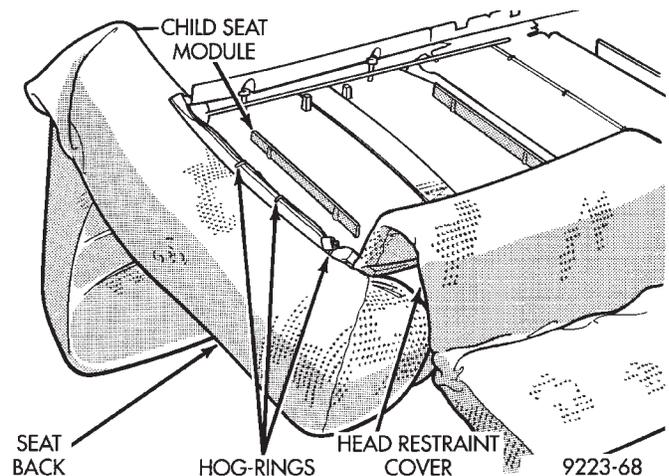
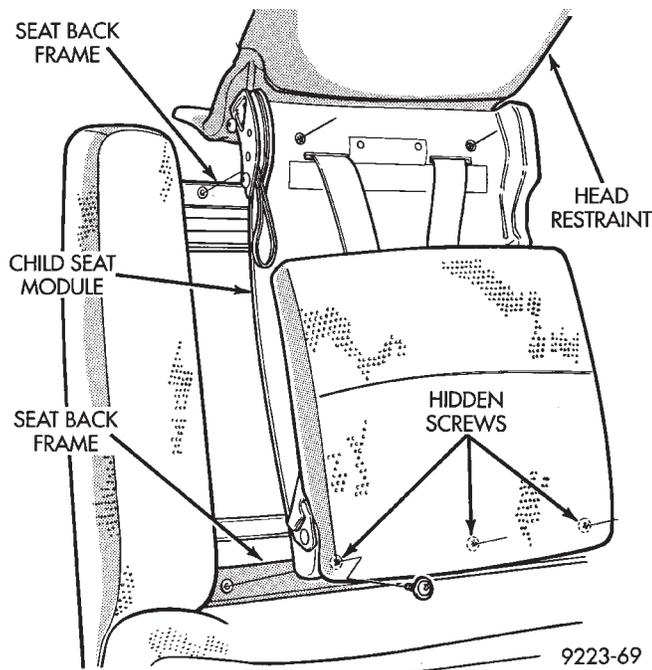

Fig. 27 Seat Back Cover Hog-ring
Fig. 28 Child Seat Module
- (1) Remove trim panel from rear of seat back.
- (2) Open child seat and separate hook and loop fasteners holding vinyl insert to module.
- (3) Disengage J-strip retainer holding head restraint trim cover to seat back frame.
- (4) Remove hog-rings holding seat back trim cover to upper seat back frame (Fig. 27).
- (5) Disengage push-in fasteners holding seat back trim cover to module under head restraint.
- (6) Pull seat back trim cover from under head restraint.
- (7) Remove screws holding top of module to seat back frame (Fig. 28).
- (8) Close child restraint seat.
- (9) Deflect pad at base of module upward to gain access to hidden screws under module.
- (10) Remove screws holding bottom of module to seat back frame (Fig. 28).
- (11) Rotate top of module forward while pulling upward and separate module from seat back.